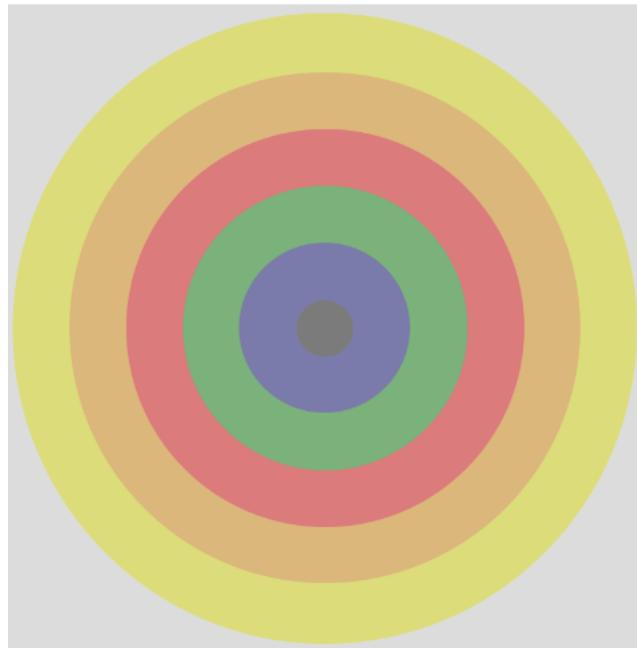

Figure 2: Drop zone circle showing color point zones.
- The drop zone, see Figure 2, will be placed randomly inside each of the rooms in the arena.